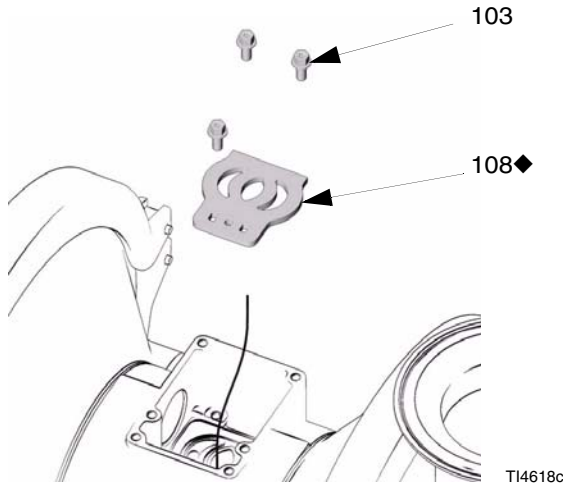

FIG. 9
5. Inspect the valve plate (108) in place. If damaged, use a Torx (T20) screwdriver or 7 mm (9/32 in.) socket wrench to remove the three screws (103). Remove the valve plate (108). See FIG. 9.
2. Install the valve plate (108) in the cavity, seal down. Install the three screws (103), using a Torx (T20) screwdriver or 7 mm (9/32 in.) socket wrench. Tighten until the screws bottom out on the housing. See FIG. 9.